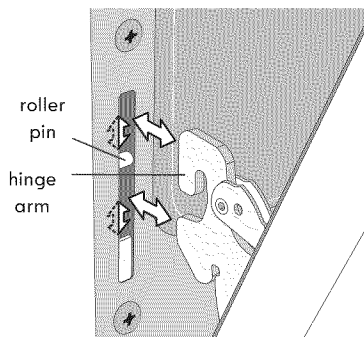

Figure 52: Hinge pin locations
5. With the oven door in the broil stop position, lift the oven door hinge arms over the roller pins located on each side of the oven frame (Figure 52).
2. Holding the oven door at the same angle as the removal position, seat the hook of the hinge arm over the roller pins located on each side of the oven door frame (Figure 52). The hook of the hinge arms must be fully seated onto the roller pins.